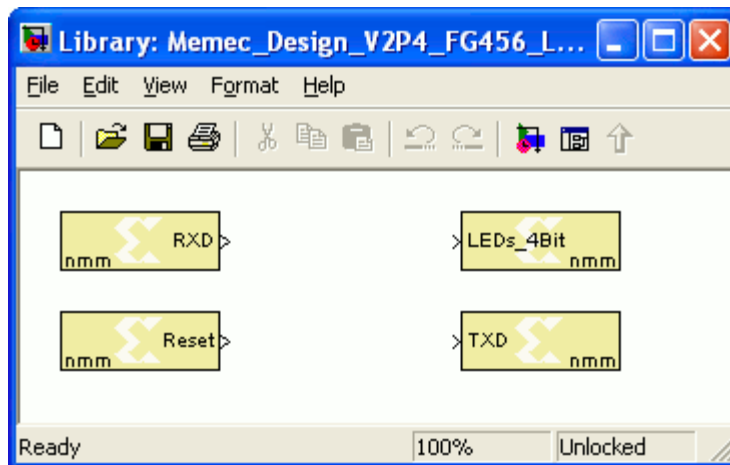

Figure 6: Example generated port library
- **yourboard_libgen.m**: Automates the process of creating the gateways for the non-memory-mapped ports on this device. Running this script will result in the creation a library like that of Figure 6.